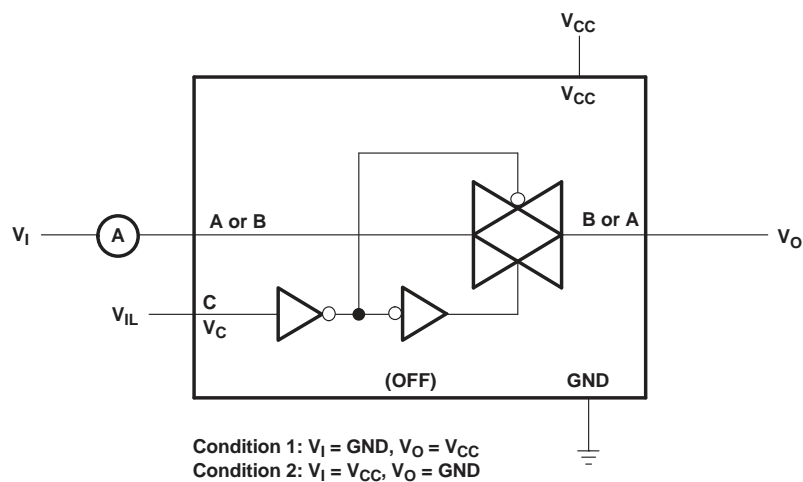

Figure 3. OFF-State Switch Leakage-Current Test Circuit
| I S(off)  | OFF-state switch leakage current    | V I = V CC and V O = GND orV I = GND and V O = V CC ,V C = V IL (see <a href="#">Figure 3</a> ) | 5.5 V                  |                            | ±1   | ±0.1 (1) | μA |